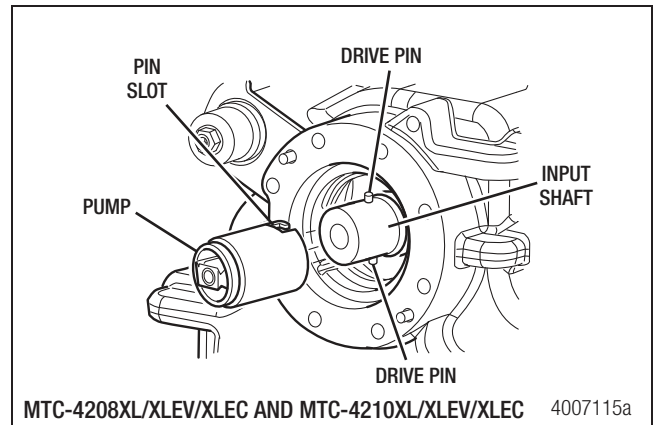

Figure 7.42
- Place the pump onto the input shaft. Rotate the pump assembly to engage the drive pins. Ensure the pump is correctly seated. Leave 3/16" (4.763 mm) of the drive pins extending from the input shaft. Figure 7.42.